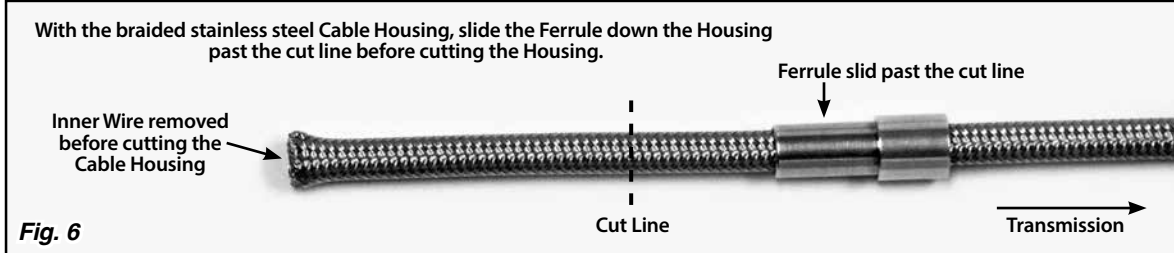

Fig. 6
Step 6: Route the cable housing up to the kickdown cable adjuster. **Make sure that the inner wire is removed from the cable housing!** If the cable housing is braided stainless steel, slide the ferrule down the housing towards the transmission, away from the end that is being cut. Fig. 6 **DO NOT remove the ferrule from the braided stainless steel housing!** If the cable housing is black universal or Vintage Series, remove the ferrule.